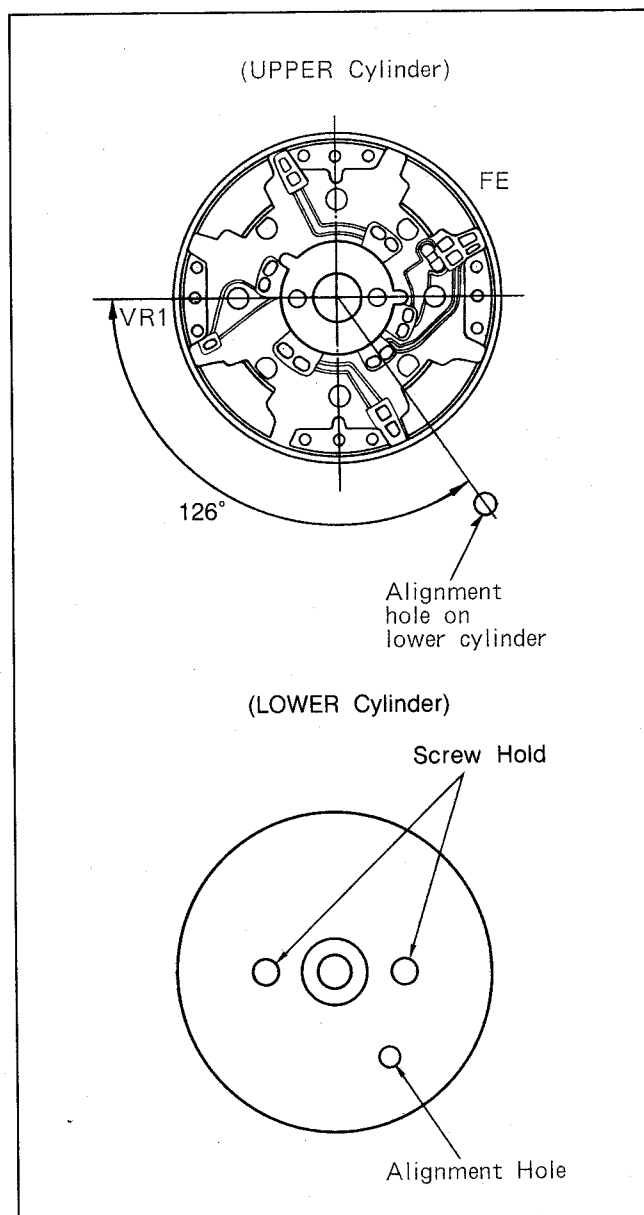

Fig. R2
4. The Upper Cylinder Unit can be reinstalled by reversing the removal procedure, however, when the Upper Cylinder is reinstalling, be extremely carefully so that VR1 of upper cylinder should be align 126° from lower cylinder alignment hole as Fig. R2.